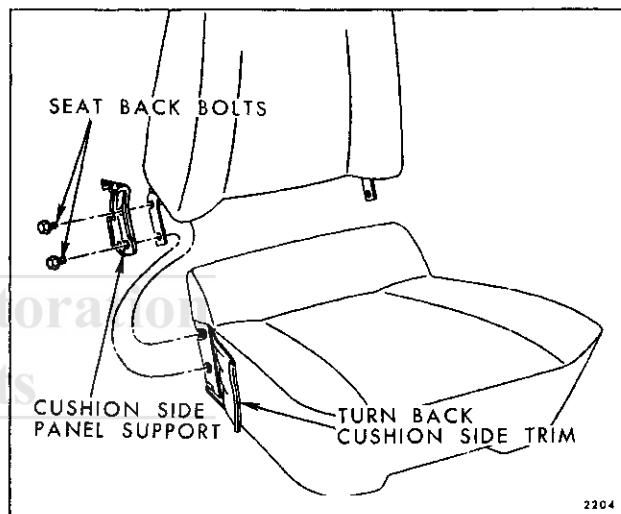

Fig. 15-39—Bucket Seat Back Removal (Without Reclining Seat Back) — All Except Corvair
- With seat side panels removed, remove hog rings securing seat cushion trim at rear of seat and along bottom of seat and turn back trim sufficiently to expose seat back hinge-to-seat cushion frame attaching bolts (Fig. 15-39).
- Remove seat back hinge-to-seat cushion frame attaching bolts (Fig. 15-39) from both sides of seat and remove seat back assembly from seat cushion.